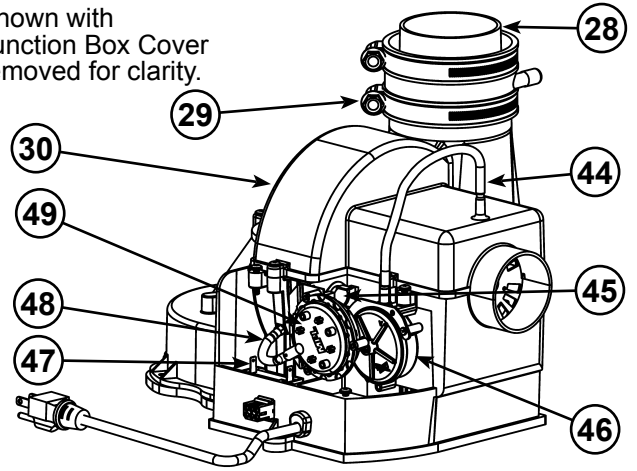

Figure 62.
- 28 ****Rubber Coupling (see Figure 5) (see also **Figure 62**)
- 29 Gear Clamp (see Figure 5) (see also **Figure 62**)
- 30 ***Blower with Power Cord (see Figure 5) (see also **Figure 62**)
- 44 Air Tubing (Intake) (see Figure 5) (see also **Figure 62**)
- 45 Blower High Limit Switch (see Figure 5) (see Figure 62)
- 46 Intake Air Pressure Switch (NC) (inside box) (see Figure 5) (see also **Figure 62**)
- 47 Capacitor (see Figure 5) (see also **Figure 62**)
- 48 Air Tubing (Exhaust) (see Figure 5) (see also **Figure 62**)
- 49 Exhaust Air Pressure Switch (NO) (inside box) (see Figure 5) (see also **Figure 62**)